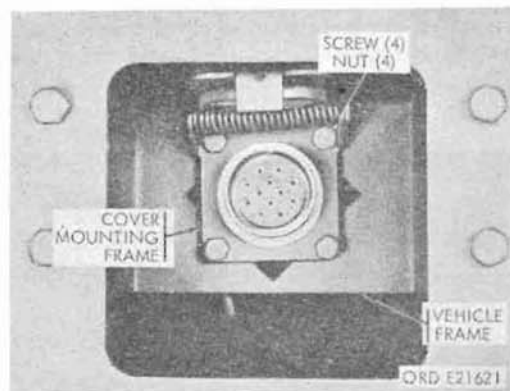

Figure 161. Trailer electrical coupling receptacle - typical
a. Removal. Remove four nuts and screws securing the receptacle cover and connector polarizing bracket to receptacle mounting bracket, and remove cover and polarizing bracket. Push coupling receptacle free of mounting bracket, and remove receptacle (fig. 161).